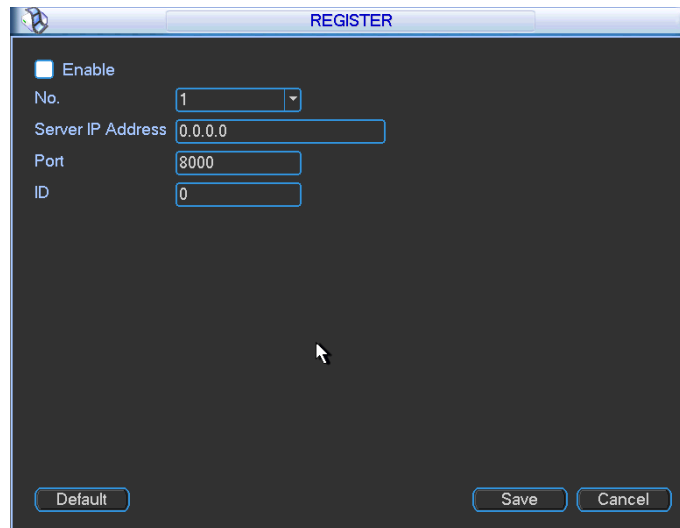

Figure 5-34
1) The setup interface is shown as in Figure 5-34.
3) Now you can add device. Please do not input default port number such as the TCP port in the mapping port number. The device ID here shall be the same with the ID you input in Figure 5-34. Click Add button to complete the setup.